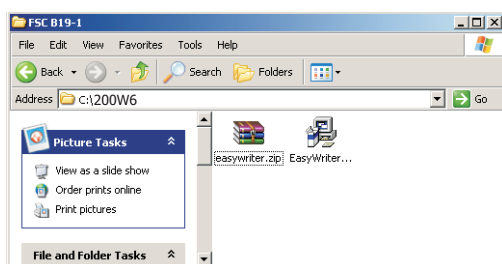

Fig. 3
Step 1 : Make a folder in your PC as shown in Fig. 3.
Step 2 : Copy the Software Easywriter.zip into your folder as shown in Fig.3.
Step 3 : Unzip Easywriter.zip into your folder as shown in Fig. 3.